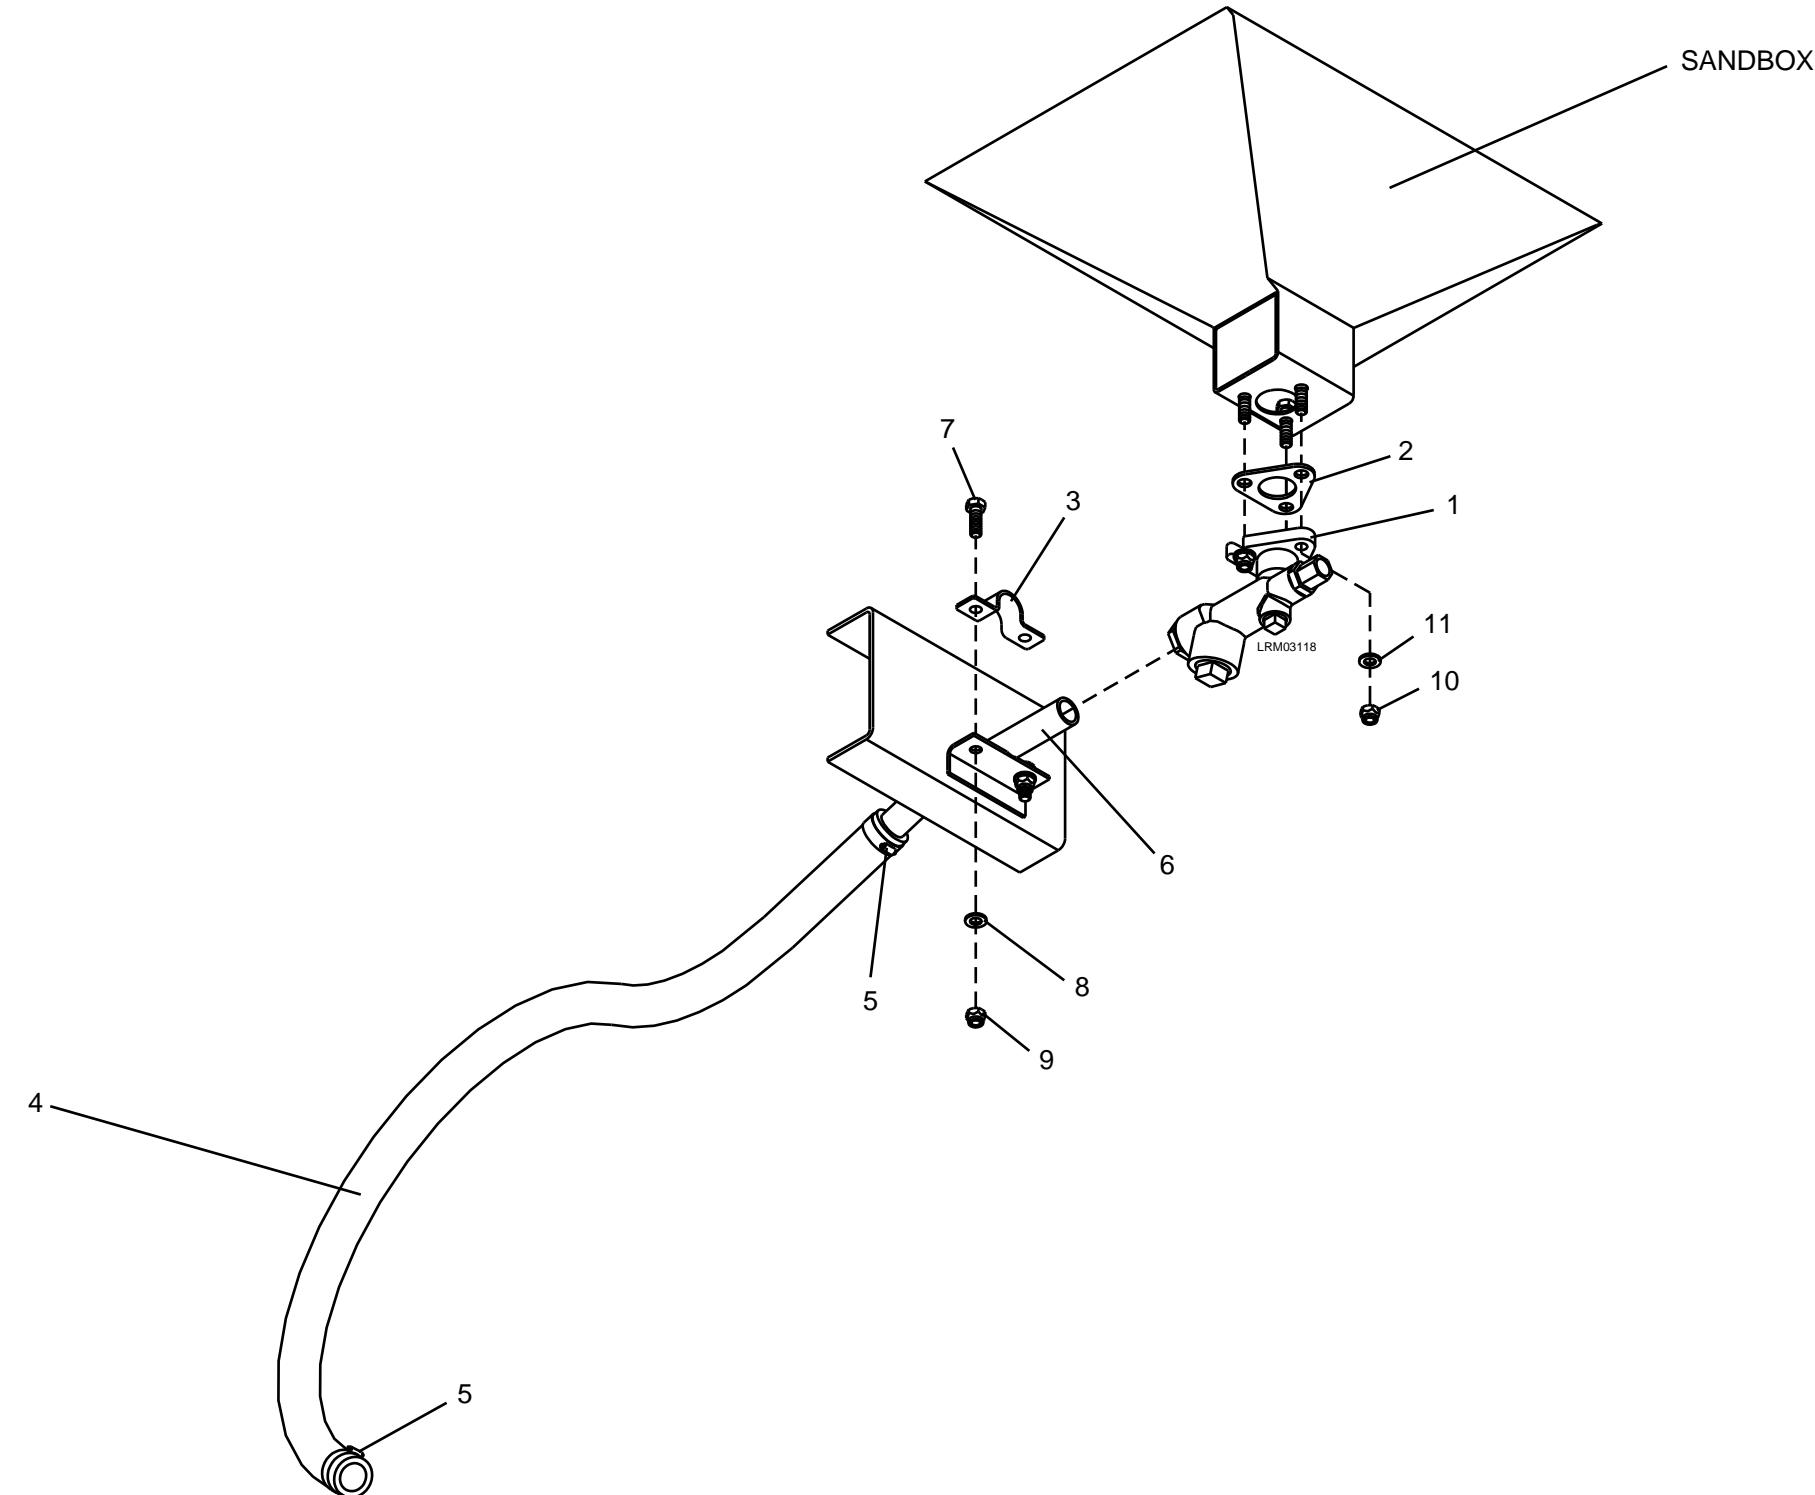

Figure 7-104: Sanding Device
2. Disconnect the air connection from the Sand Ejector (1). See Figure 7-104.
3. Loosen the hose clamp (5) and remove the hose (4) from the sanding pipe (6).
4. Remove the two M10 ESNA nuts (9), M10 plain washers (8) and M10 x 30 bolts (7).
5. Remove the pipe clamp (3).
6. Remove the sanding pipe (6) from the Sand Ejector (1).
7. Remove the three M10 ESNA nuts (10) and M10 plain washers (11).
8. Carefully remove the Sand Ejector (1) and gasket (2) from the sandbox.